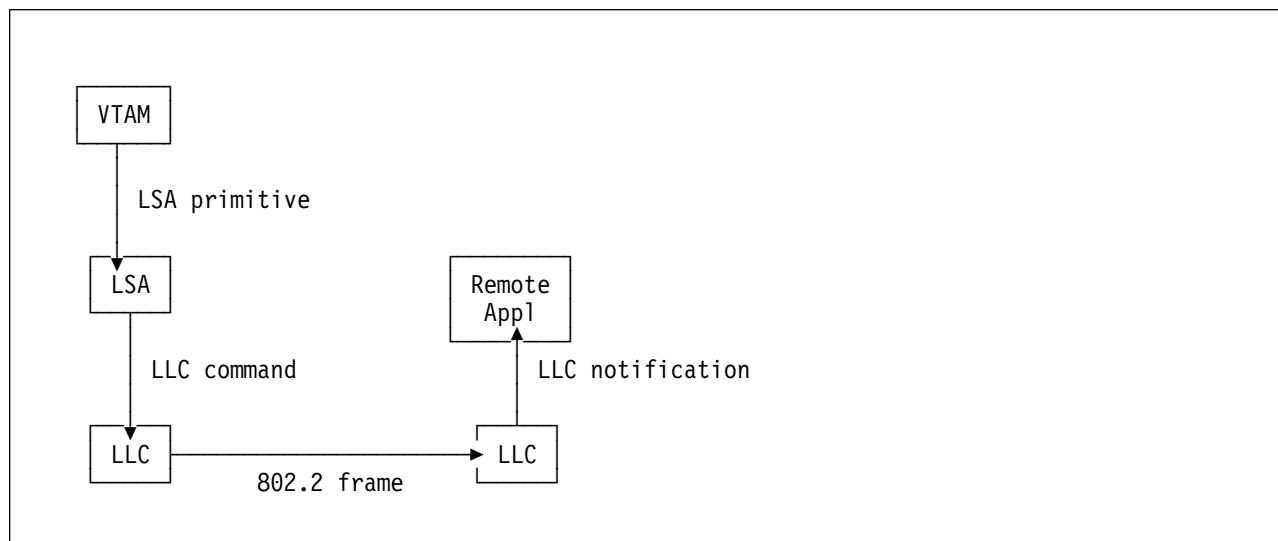

Figure 14-2. Normal LLC Connection
**LLC Loopback:** LLC Loopback is an extension of the virtual LAN adapter concept to allow VTAM connections with the APPN and DLSw functions in the Network Utility. To establish an SNA connection, the LSA interface creates an LLC connection between itself and the remote device across the LAN using IEEE 802.2 frames. See Figure 14-2.